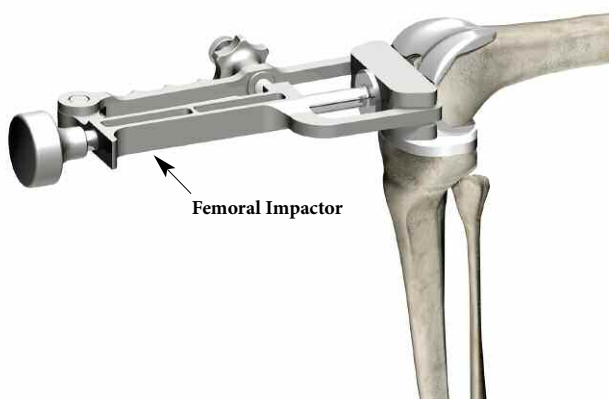

Figure 86
- ▶ Assemble the appropriate size of left or right femoral implant onto the Femoral Impactor/Extractor in the same manner as the femoral trial. See Appendix 2 for Scorpio NRG PS/CR interchangeability chart. Place the implant on the prepared femur and impact it until fully seated (**Figure 86**). The Impactor/Extractor maintains accurate position of the implant during implantation.